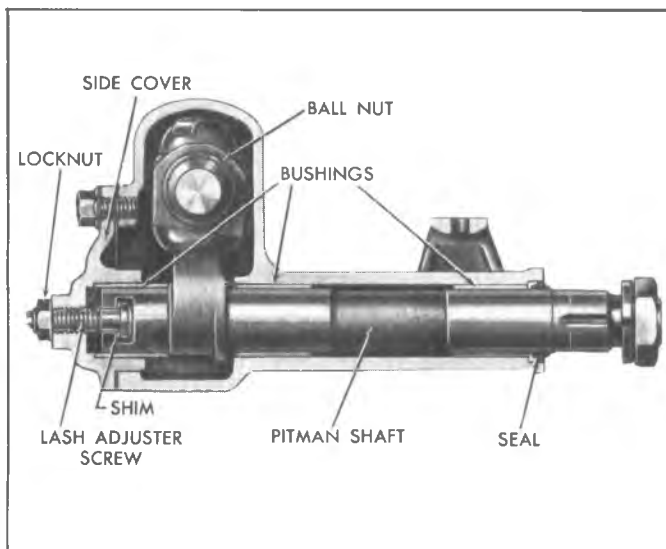

Fig. 4-Steering Gear (Corvette and G10-30 Series Trucks)
2. Press the new bushing(s) into position using Tool J-1614. Position the Corvette and G10-30 Series Truck bushings as shown in Figure 4.